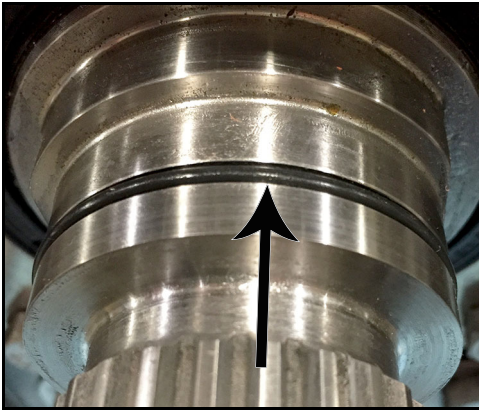

Figure 103 - O-ring installed
23. Figure 103 shows the O-ring installed in the shaft groove.